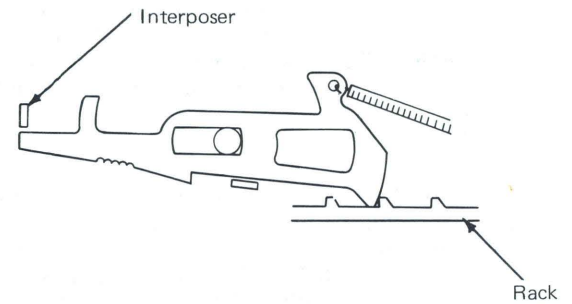

Figure 4 – Escapement Pawl Operation (Top View)
1. Escapement pawl at rest holding carriage (Figure 4).